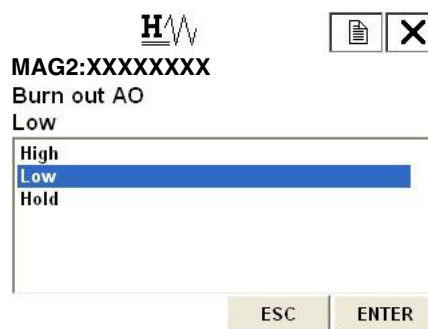

Figure 99.
Figure 99 is then displayed.
2. Once the display as shown in Figure 99 appears, move the arrow key up or down to select HIGH, LOW, or HOLD. After making a selection, press F4 (ENTER). If F3 (ESC) is pressed here, the selection is canceled and the display returns to the Analog output menu.